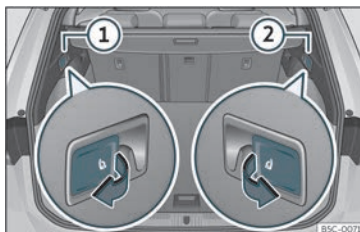

Fig. 112 In the luggage compartment: levers to unlock the rear backrest.
- Pull the remote release lever of the left part»» Fig. 112 ① or right part ② of the backrest in the direction of the arrow. The released part of the rear seat backrest is folded automatically down and forwards.